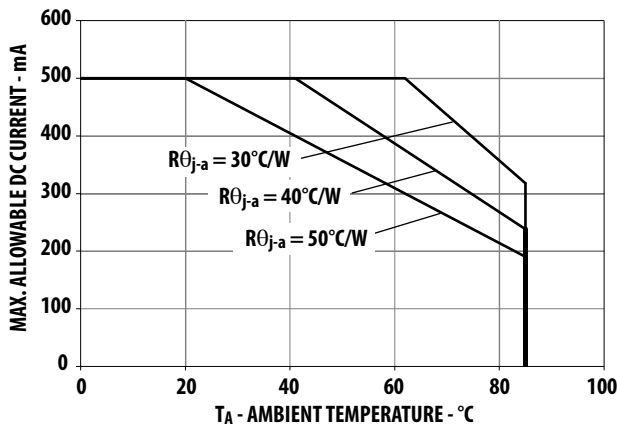

Figure 8. Maximum forward current vs. ambient temperature
1. Derate linearly based on Figure 8 and 9.